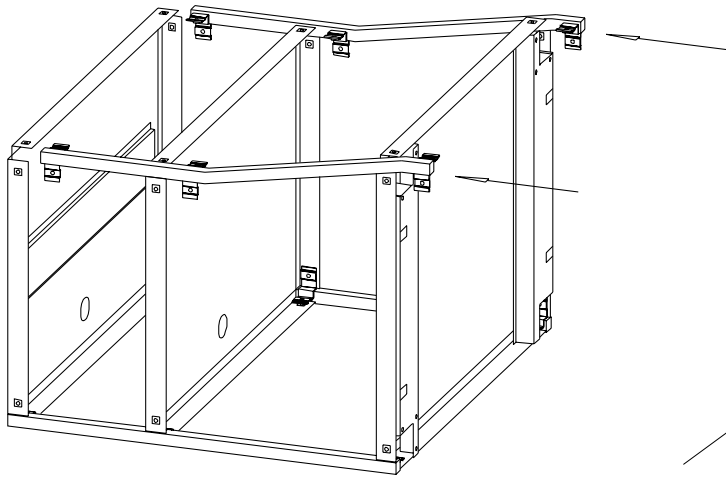

FIGURE 3
Slide the 2 front legs onto the shelves so that the brackets are inside the shelves as shown in **Figure 3**. Secure each corner of the shelves and legs together with bolts (AA) and nuts (BB) as shown in **Figure 4**.